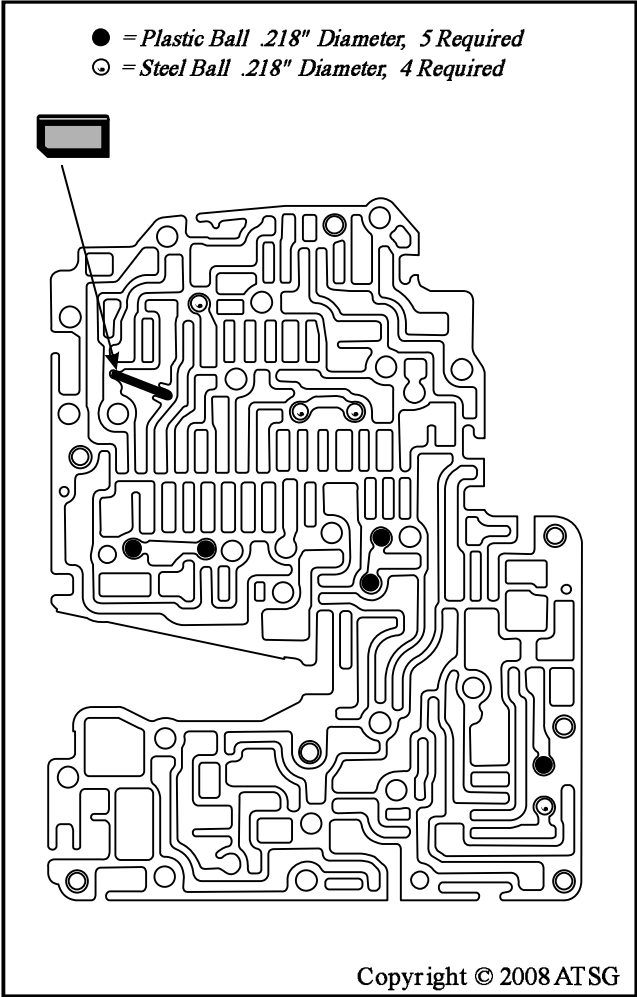

Figure 168
28. Install the four steel check balls in their proper positions, as shown in Figure 168.
29. Install the five plastic check balls in their proper positions, as shown in Figure 168.